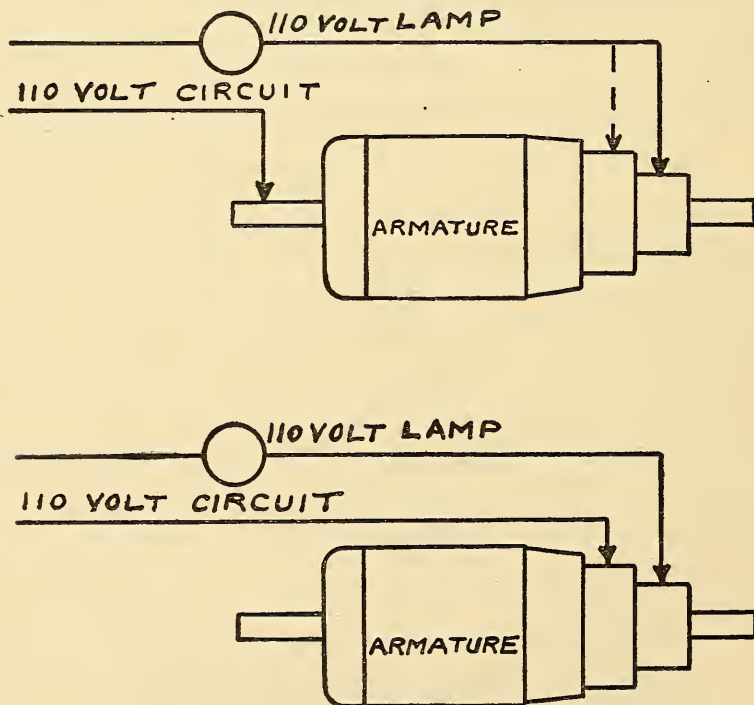

Fig. 73.
1. Insulate all brushes from the commutator by placing sheets of paper between them. Then with the test points, test for a ground from each commutator to the frame, as shown diagrammatically in Fig. 73. Neither commutator on either generator or motor winding should show a ground.